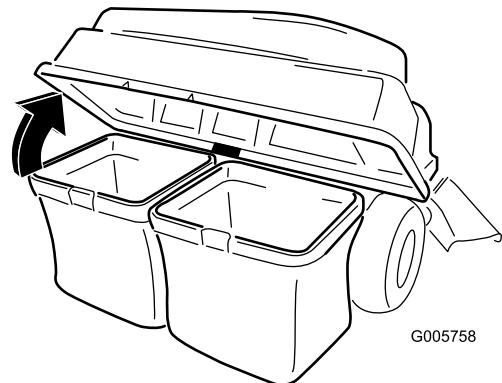

Figure 19
3. Open (raise) the bagger top (Figure 19).